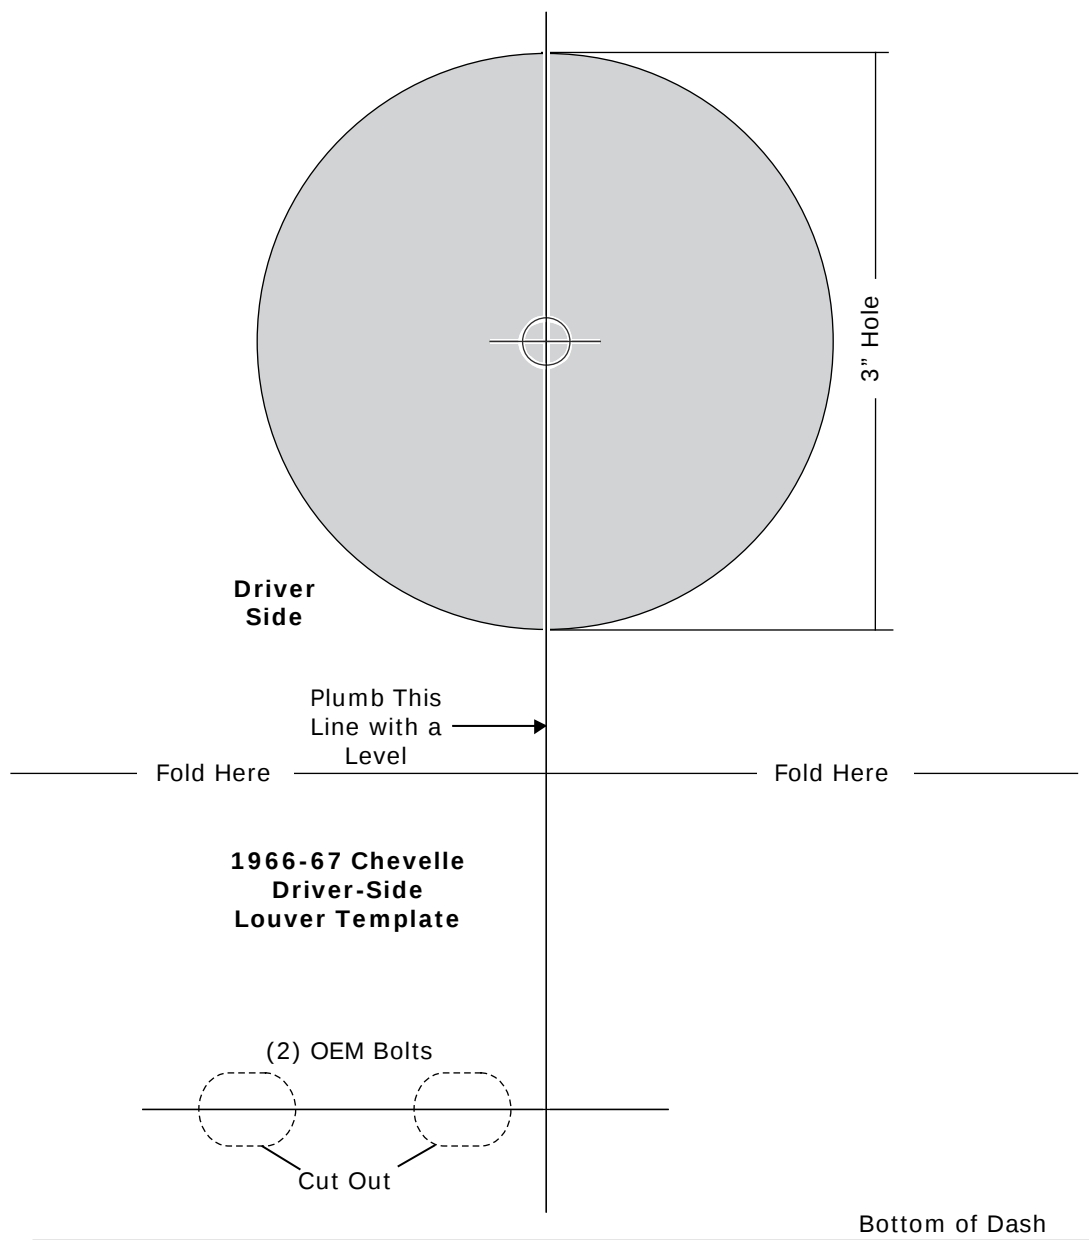

**Figure 1a**
3. Install the defrost ducts under the dash, aligning them with the OEM openings (See Photo 5, below). Secure the driver- and passenger-side defrost ducts to the cowl using (2) #14 x 3/4" washer head screws (See Photos 5, 6 and Figure 1, below). **NOTE: On 1966 models, the driver-side defrost duct installs behind the steering column bracket and is secured using the steering column OEM bolt as shown in Figure 1a, below.**
4. Install louvers into the dash as shown in Figure 1a, below.